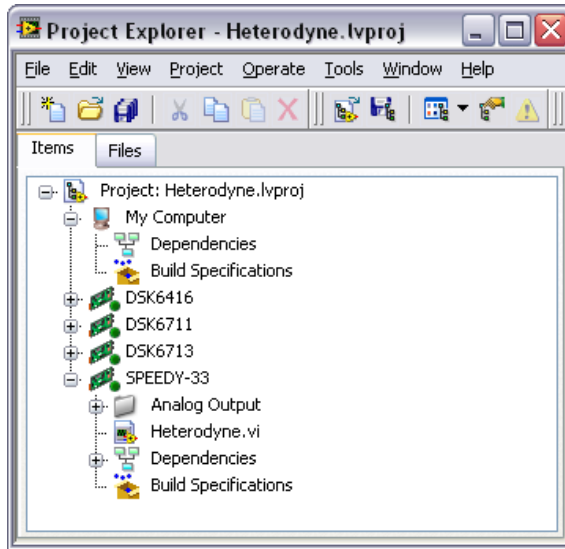

Figure 2. Targeting the SPEEDY-33 with the Heterodyne VI
- Expand the target you are using in the **Project Explorer** window to see the items and VIs the project associates with that target, as shown in Figure 2.